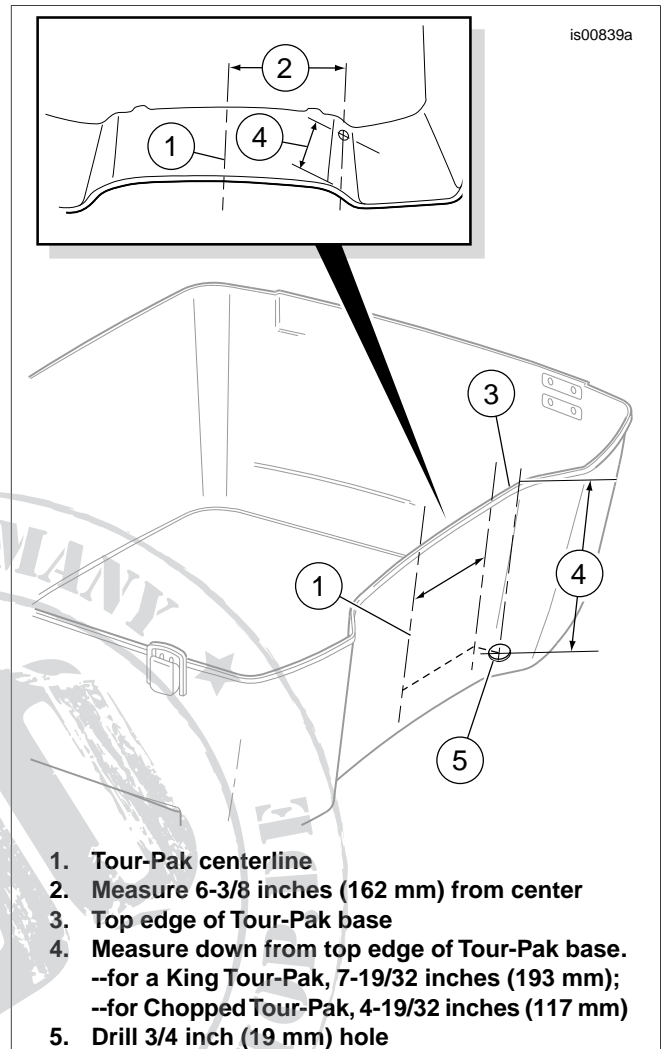

Figure 3. AM/FM Antenna Cable Drilling Location (Type 2 Tour-Pak)
- a. See Figure 3. Measure and determine the center (1) of the inside front Tour-Pak wall.
- d. Facing the tape, measure 6-3/8 inches (162 mm) from the center line to the left side front Tour-Pak wall (2). Do not follow the curve of the wall, but measure **straight across**. See Figure 3 inset.
- g. See Figure 3 (item 4).